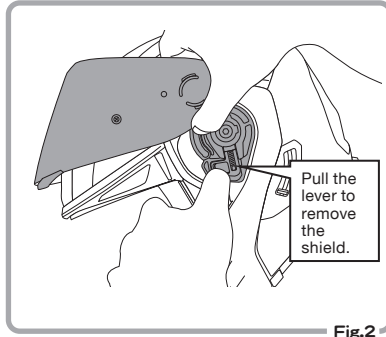

Fig.2
- 3 Remove the hook on the underside of the shield ratchet from the shield ratchet mounting hole. (Figure 2)